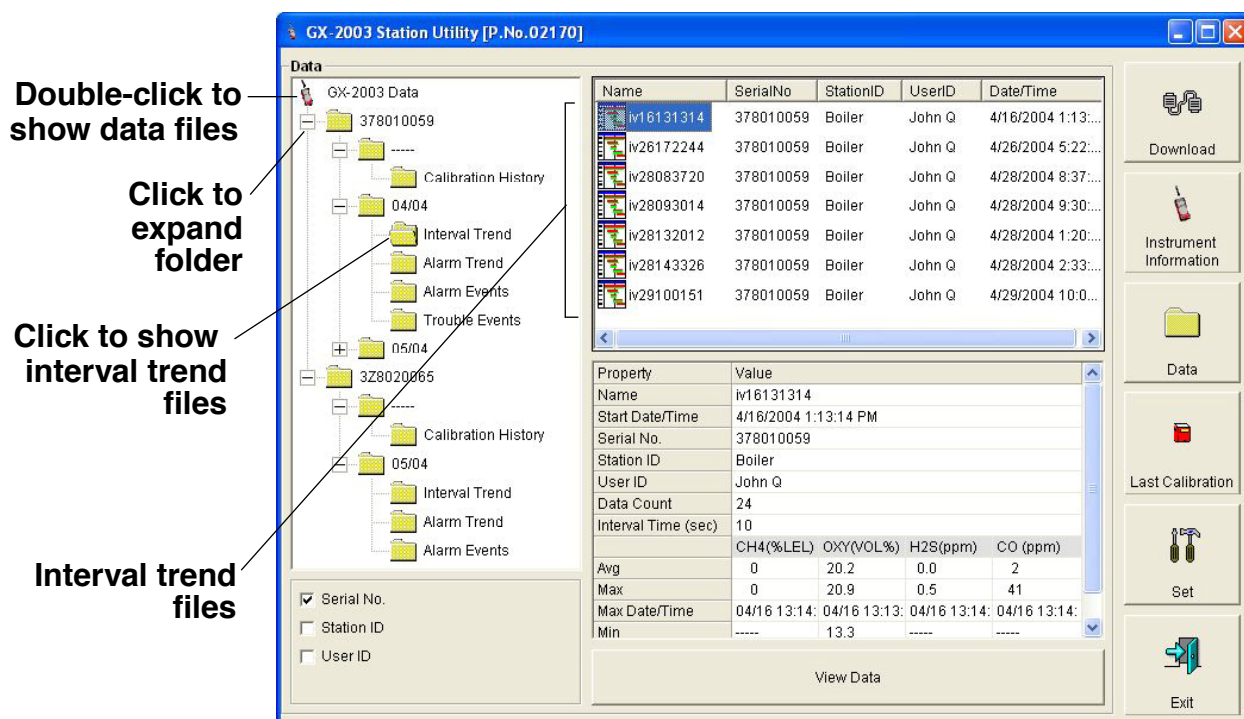

Figure 24: Data Window - Selecting Interval Trend Data Files
- If you click the **Summary** button, the data window will split into two frames, one above the other, with the data table in the lower frame and the summary information shown in the upper frame. The summary information is the same as the one shown in the lower right frame in Figure 24.
NOTE: The data count shown when you have selected an interval trend data file, as in Figure 24 above, can be more than five if you have events, such as the GX-2003 going into and out of alarm, but you may not have five scheduled data points.
- If you click the Summary button, the data window will split into two frames one above the other with the graph in the lower frame and the summary information shown in the upper frame. The summary information is the same as the information shown in the lower right frame in Figure 24.